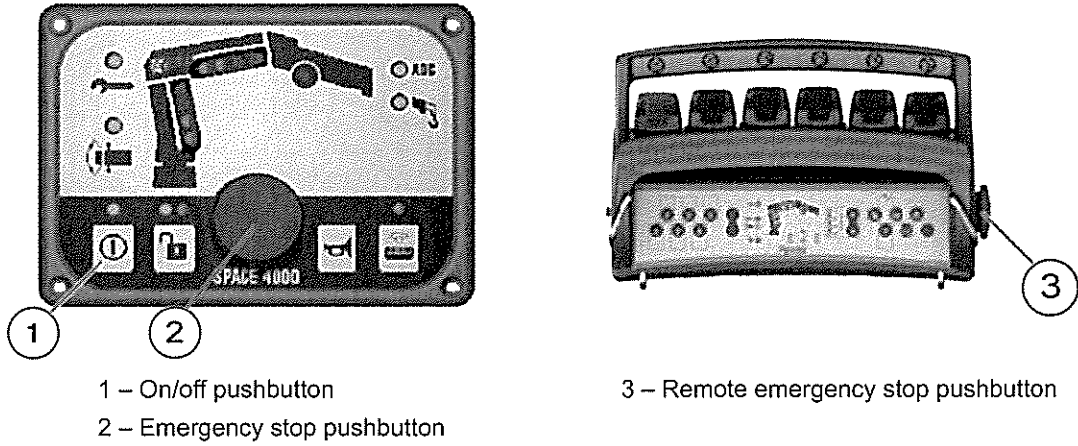

Fig 17 After operation
- 33 Refer to Fig 17. Before driving the vehicle, carry out the checks that follow:
- 33.2 Check that the on/off pushbutton (1) is switched off in the user interface panel.
- 34 Refer to Fig 17. Press the emergency stop button (2) on the user interface panel.
- 35 Press the emergency stop pushbutton (3) on the remote control.